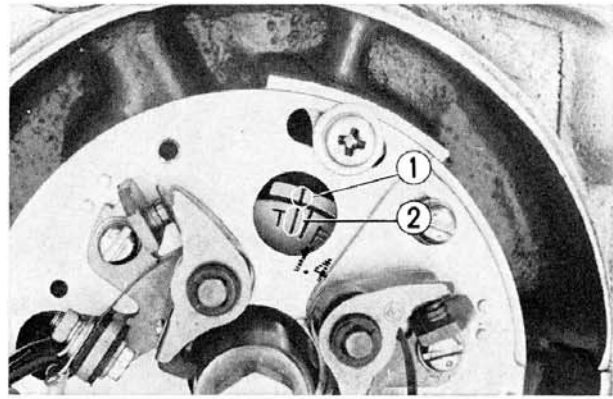

Fig. 3-56 ① Index mark
- a. While slowly rotating the crankshaft clockwise (see arrow) watch the #1 cylinder inlet valve tappet. When this tappet retracts all the way and then starts to rise, watch for the alignment of the timing index mark and the "T" mark. Check the 1-4 cylinder mark. In this position the #1 piston will be at T.D.C. (top dead center) of the compression stroke, and both the inlet and exhaust valves in that cylinder should be fully closed. The valve tappet clearances of the valves marked with the O in the table on the next page can be checked. (Fig. 3-56)